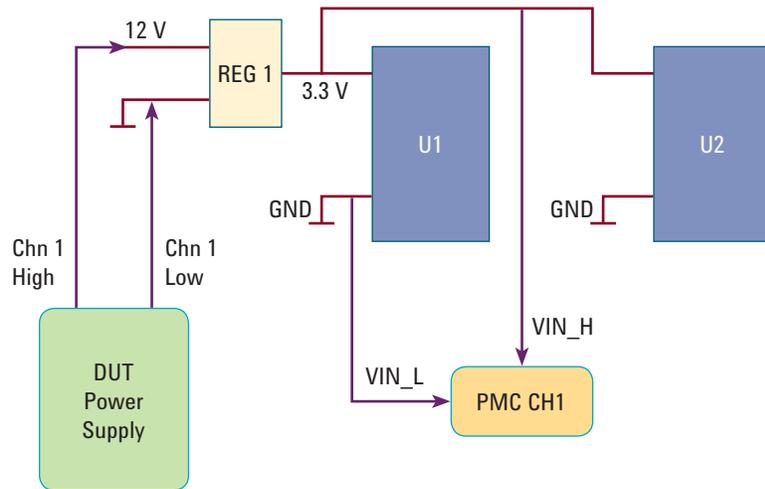

Figure 3. PMC connection to detect voltage failure
1. With reference to Figure 3, connect "3.3 V" node to "Vin_H" of PMC channel 1. Mint pin/personality pin location is 213173.